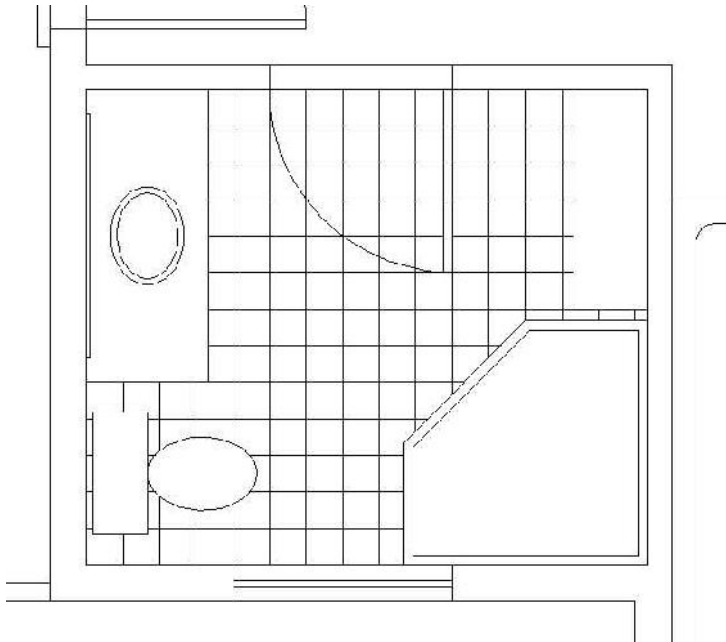

FIGURE 11.20: The tiled hatch pattern in place
9. Back in the drawing, be sure no osnaps are running. Use the automatic preview to pick two points to match the tiled hatch pattern shown in Figure 11.20 by doing the following:
The tiled hatch pattern should fill the bathroom floor and stop at the header, while not encroaching into the door or fixtures (see Figure 11.20).